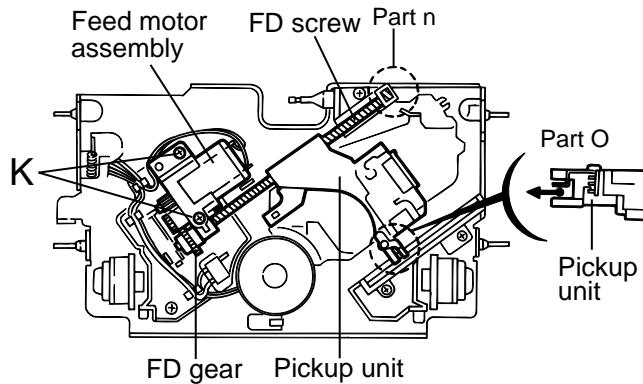

Fig.19
■ Removing the feed motor assembly (See Fig.19)
■ Removing the pickup unit (See Fig.19 and 20)